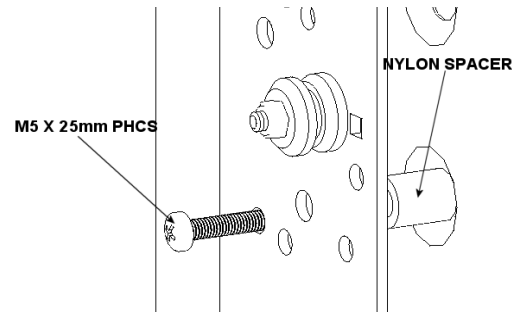
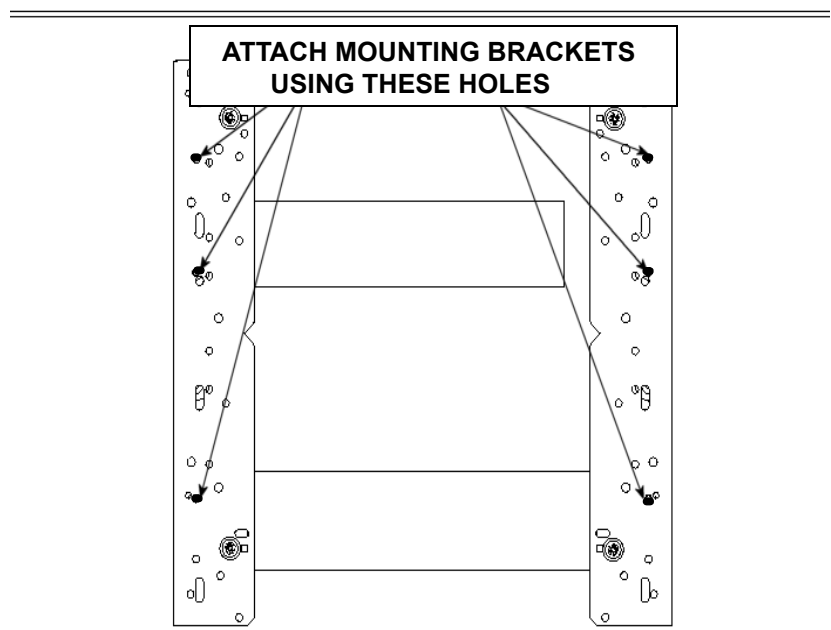

Figure 19. Spacer Installation for Group 6
Figure 20. Bracket Attachment for Group 6
4. Place the interface brackets over the Nylon spacers (see Figure 19 and Figure 20).
6. Using the M5X25mm screws in the parts bag labeled C, attach the interface brackets to your Large Flat Panel display (see Figure 19 and Figure 20). Do not overtighten the mounting screws.